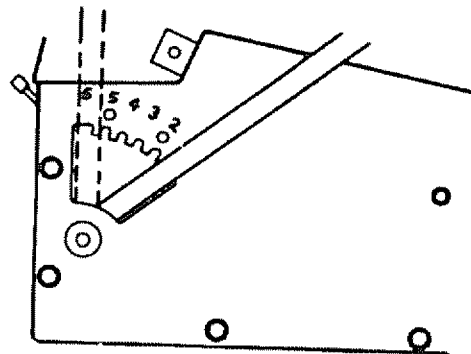

FIGURE 31
- Push lift lever plunger down and position attachment lift lever to desired cutting height (Fig. 31). Release lift lever plunger.
- Depress lift lever plunger and use lift lever to raise mower to maximum cutting height (Fig. 31).